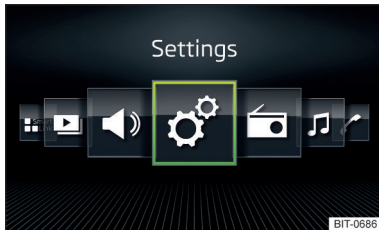

Fig. 142
- ▶ Select the Grid » Fig. 141 or Horizont. display » Fig. 142 option.